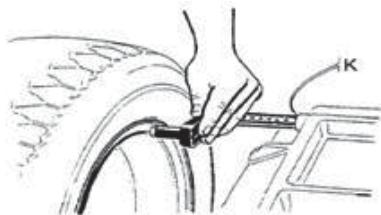

Fig.1
- set “a” value: move the gauge to measuring position as illustrated as Fig.1, hold the gauge still in position for approx. 4 seconds, successful memorization is given, then return the gauge to position